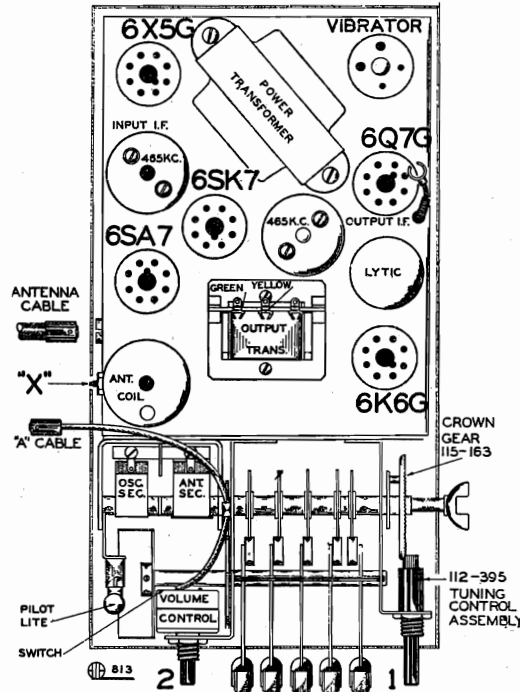

FIG. 3—TOP VIEW
3. Move test oscillator connection to grid of 6SA7 tube and adjust trimmer condensers of input I.F. transformer No. 108139 to resonance with oscillator. There are two adjustments on each and they are accessible from the top of the transformer shield and should be adjusted with an insulated screw driver. (See Fig. 3—top view, page 3.)
2. Adjust oscillator trimmer of variable condenser to resonance. (This adjustment is the rear section of the two-gang condenser—see top view, Fig. 3.)
3. Shift test oscillator to 1400 K.C. and pick up signal by rotating condenser and adjust antenna trimmer (front section of gang condenser) to resonance (see top view, Fig. 3.)